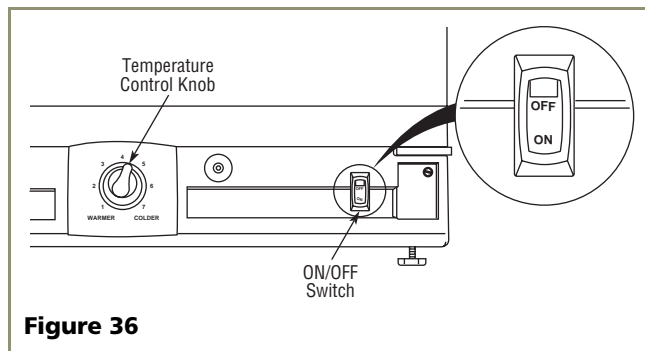

Figure 36
2. Make sure the ON/OFF switch is in the OFF position (see **Figure 36**).
Once installation and leveling is complete, the unit is ready for initial start-up and operation. The ON/OFF switch is located in the front grille (see **Figure 36**).